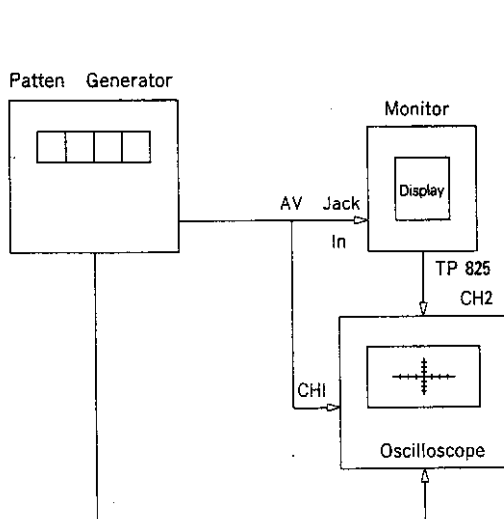

Fig. 11
6. Connect the equipment as shown in Fig. 11